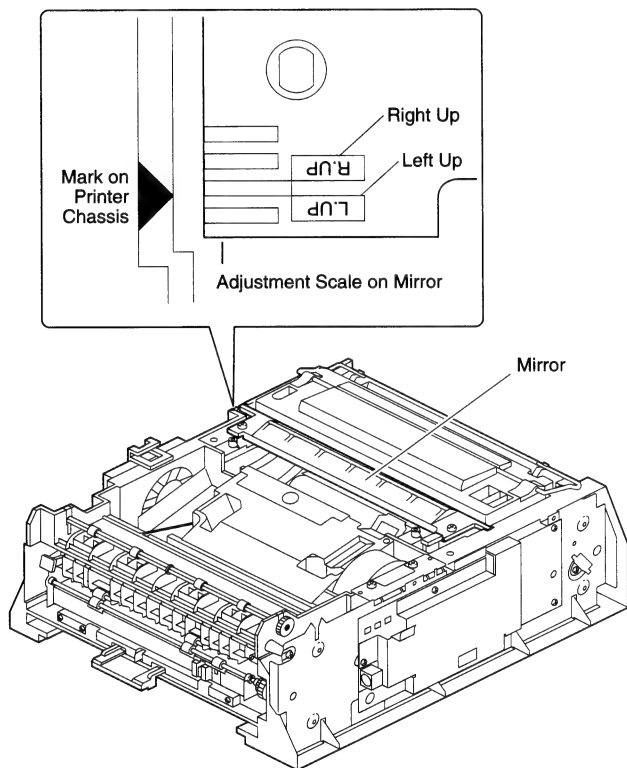

Figure 10 Aligning the Mirror
1. Align the adjustment scale on the mirror assembly with the mark on the printer chassis, as shown in Figure 10.